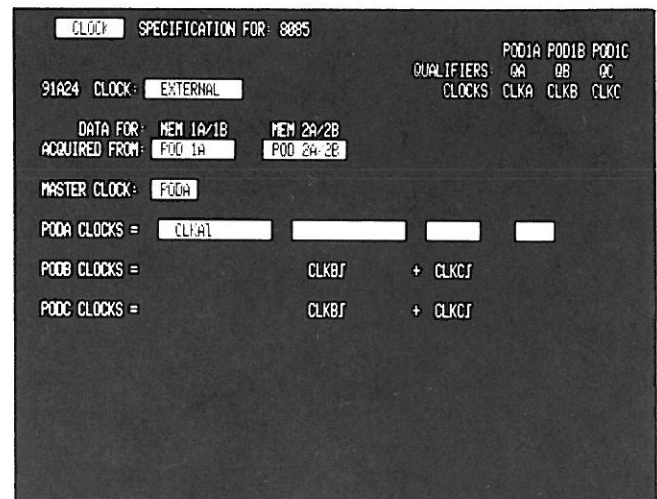

Figure 17. Clock Specification sub-menu setup for 8085.
As shown in Figure 17, this pod/memory arrangement is specified in the Clock Specification sub-menu's ACQUIRED FROM field. The field's default value POD 1A/1B is changed to POD 1A.
The 8085 signals ALE(H), RD(L), and WR(L) are suitable clocking signals. Address information is valid on the falling edge of ALE(H), Address Latch Enable. Data and control lines are valid on the rising edge of either RD(L) or WR(L), whichever is true on the bus cycle. As shown in Figure 17, the Clock Specification sub-menu is set up with the appropriate clock expressions.